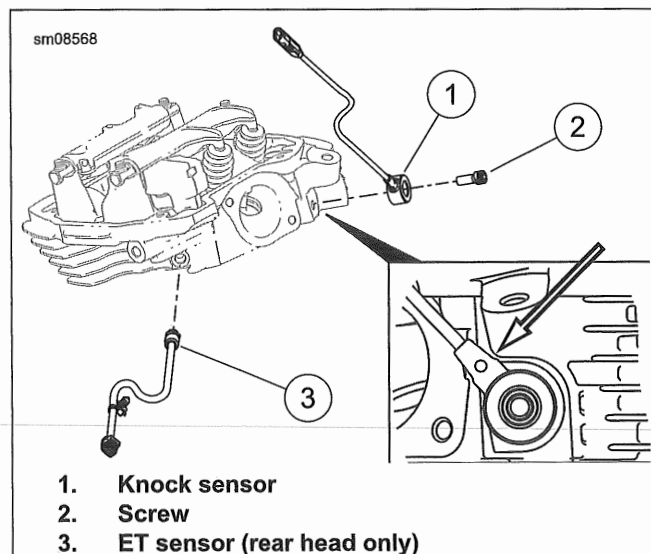

Figure 7-123. Cylinder Head Sensors
1. See Figure 7-123. Disconnect ET connector. See USB CADDY (Page 7-84).
2. Remove sensor (3) from rear cylinder head.